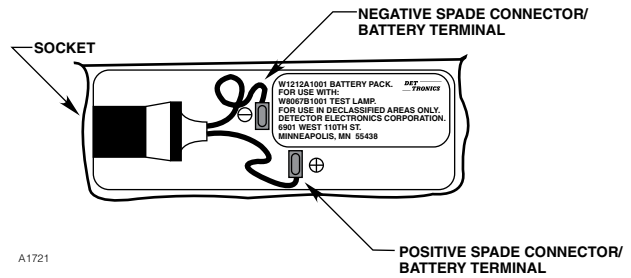

Figure 3—W1212 Battery Pack Connections
1. Attach the battery socket. Remove the protective paper on the adhesive strip that is affixed to the socket, then locate the socket on top of the battery as shown in Figure 3 and press it firmly into place.